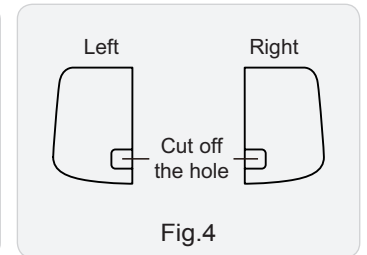

Fig.4
(2) When selecting leading out the pipe from left or right, please cut off the corresponding hole on the bottom case. (As show in Fig.4)